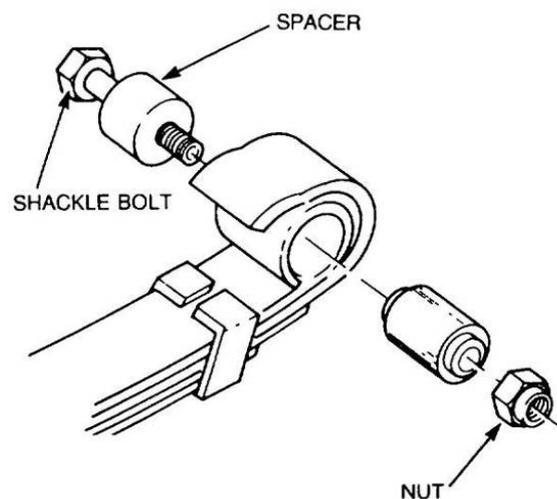

Figure 156 Removal of the Shackle Bolt (Fixed End)
- j. Using a suitable drift, drive the shackle bolt through the shackle bush and the fixed shackle mounting (Figure 156). Remove the spacer.